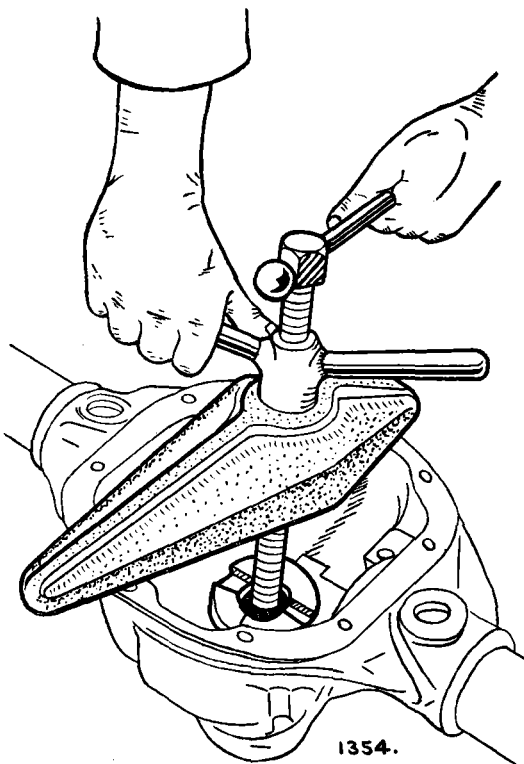

Fig. 8. Removal of the inner bearing cup.
- (1) Remove the pinion nut and washer.
- (2) Withdraw the universal joint companion flange with a suitable puller.
- (3) **PRESS** the pinion out of the outer bearing. It is important that the pinion should be pressed and not driven out to prevent damage to the outer bearing. The pinion, having been pressed from its outer bearing, may now be removed from the gear carrier housing. Note : Keep all shims intact.
- (4) Remove the pinion oil seal together with the oil slinger and outer bearing cone.
- (5) Examine the outer bearing for wear and, if replacement is required, extract the bearing cup, using Tool No. SL.14 with SL.14-1 shown in Fig. 8.
- (6) Remove the pinion inner bearing cup, as shown in Fig. 8, using Tool No. SL.14 with SL.14-1 if the bearing requires replacement or adjustment of the pinion setting is to be undertaken. Take care of the shims fitted between the bearing cup and the housing abutment face.